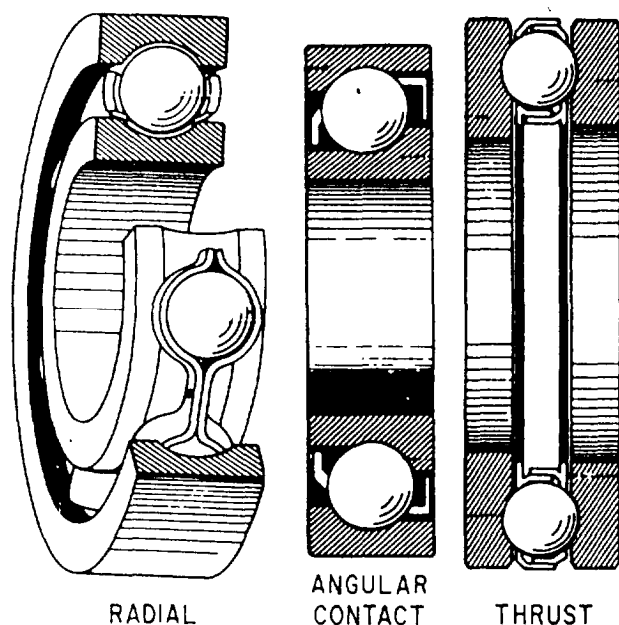

Figure 3-14.—Representative types of ball bearings.
roller bearing used most extensively in the construction of electric motors and generators used in the Navy. These bearings are further divided into three types dependent upon the load it is designed to bear—(1) radial, (2) angular contact, and (3) thrust. Figure 3-14 shows examples of these three bearings.